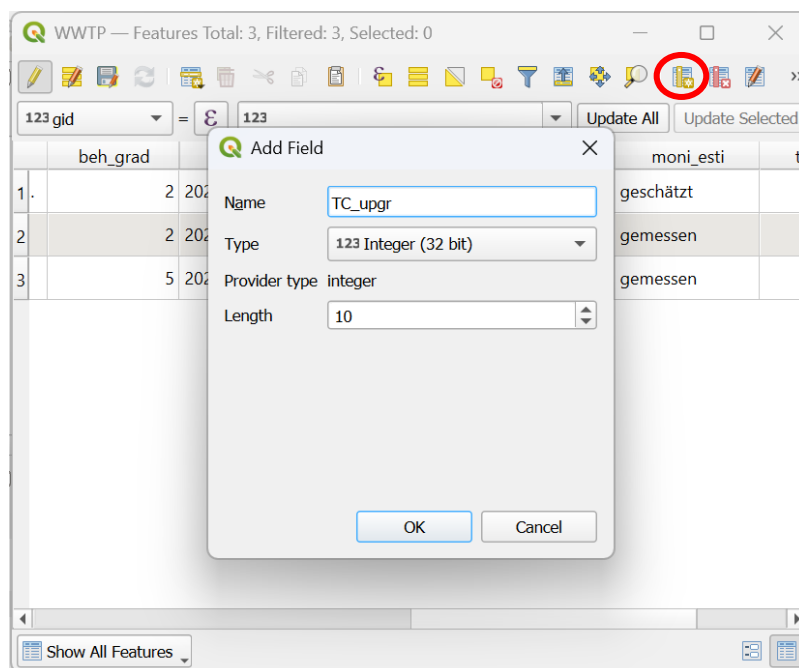

Figure 15. Add a new field in the WWTP layer
3. Click on the “New field” icon (Fig. 15)
4. Add a new field called “TC\_upgr”, type “Integer (32 bit)” (Fig. 15)